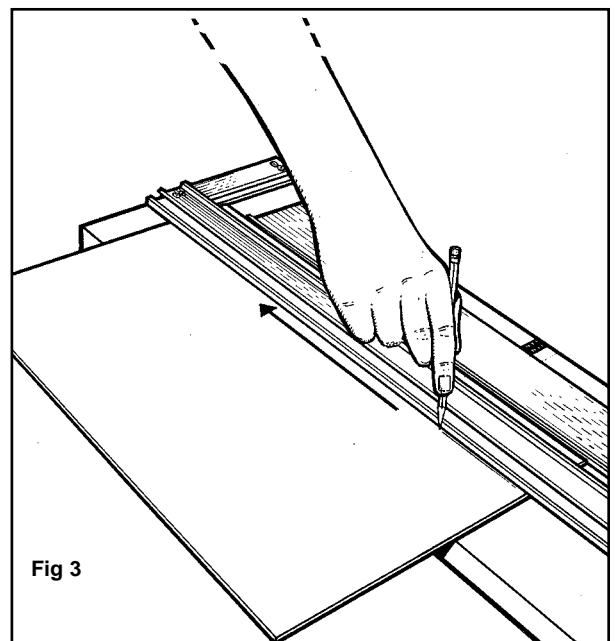

Fig 3
5. Using a pencil, draw a line down the full length of the back of the matboard. Repeat this for the remaining three sides. **Fig. 3**